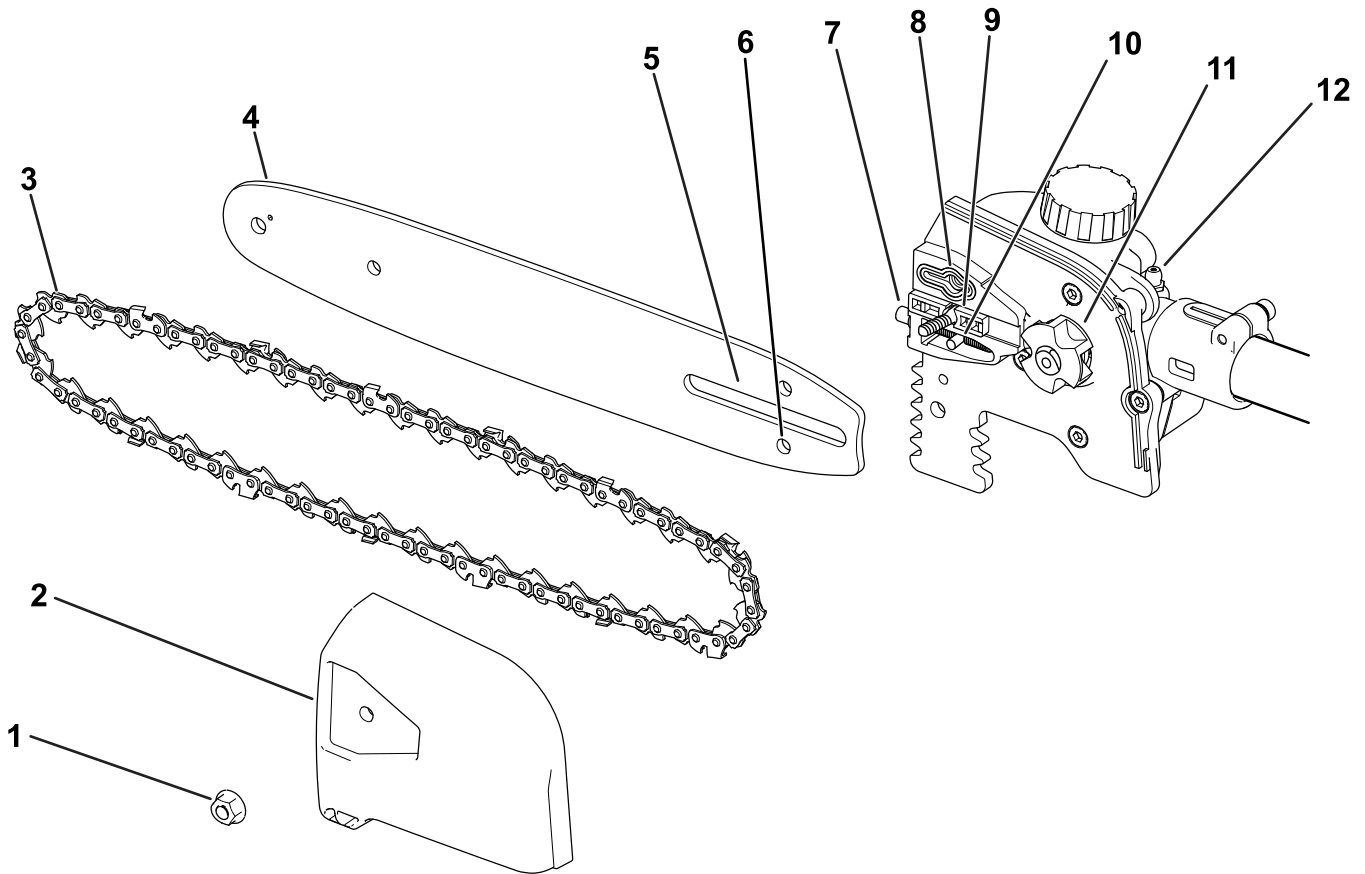

Figure 3
2. Remove the side cover; turn the bar cover screw counterclockwise until the screw is removed and then remove the side cover (Figure 3).
5. Position the open loop of the chain (the side not on the guide bar) around the drive sprocket on the pole saw (Figure 3).
**Important:** Ensure that the chain adjusting stud is inserted into the chain adjusting stud slot on the guide bar (Figure 3).